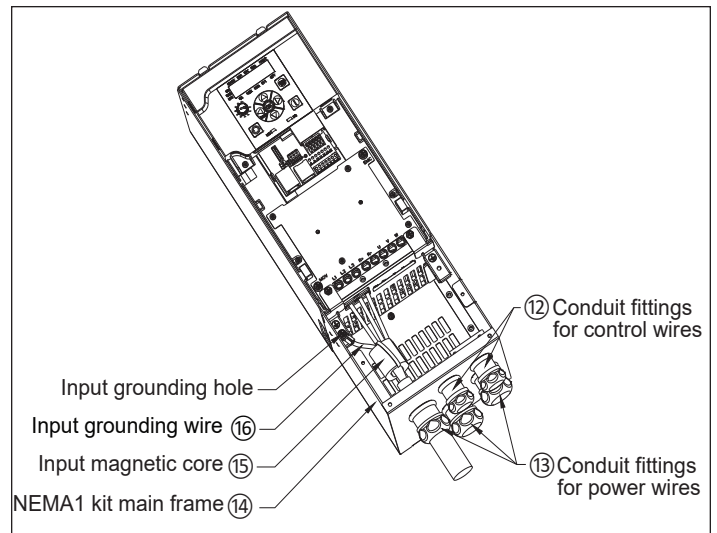

Figure 19. Routing the input cable, input grounding wire, and input magnetic core.
A. Run the input cable (1P: 2 line wires + 1 input grounding wire; 3P 230 V/480 V: 3 line wires + 1 input grounding wire; 3P 575 V: 3 line wires) through the power wires conduit fitting (13) and input magnetic core (15) (if provided). The input grounding wire (16) should not run through the input magnetic core (if provided) for 3P 575 V drives. Connect the input grounding wire (16) to the input grounding hole on the NEMA 1 main frame (14), then connect the line wires to the input terminals (1P: L2/L3; 3P: L1/L2/L3). Tie the input magnetic core (if provided) to the input wires with a cable tie (see Figure 19).